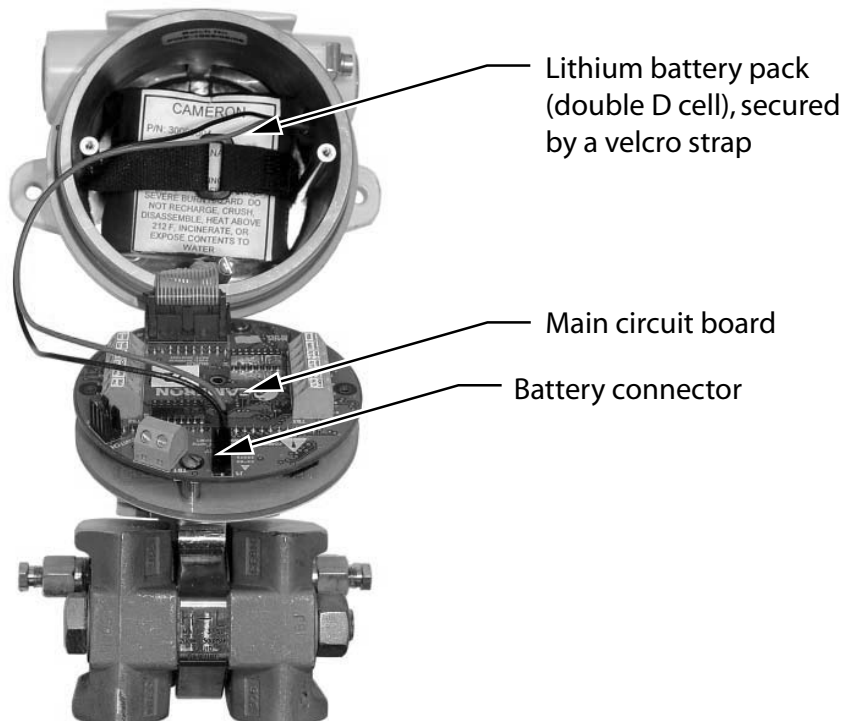

Figure 1.5— Scanner 2000 microEFM, internal view
- with the internal lithium battery pack supplied with each Scanner 2000 (shown in Figure 1.5)